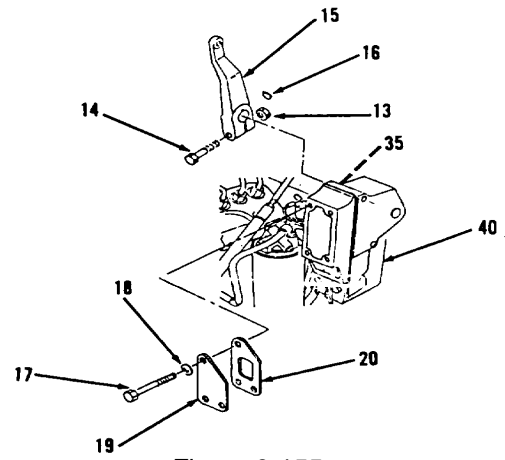
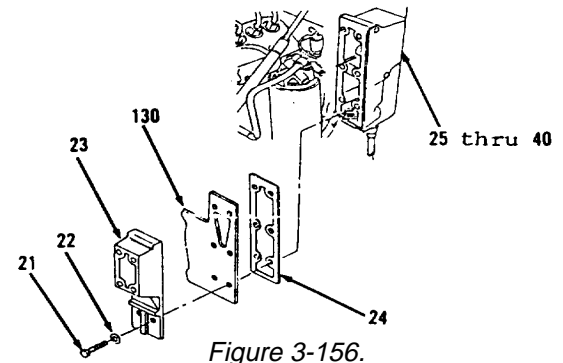

Figure 3-155.
Figure 3-156.
15. Remove nut (13) and bolt (14, Figure 3-155) from inner, right side of dash panel in engine compartment.
16. Using screwdriver, remove lever (15) from shaft (35) on inside of housing (40).
17. Remove key (16) from shaft (35).
18. Remove four bolts (17), washers (18), cover (19) and gasket (20). Discard gasket (20). Remove all gasket material from mounting surfaces.
19. Support housing (40).
20. Remove two bolts (21), washers (22), housing (23) and gasket (24, Figure 3-156). Discard gasket (24). Remove all gasket material from mounting surfaces.
21. Separate items 25 thru 40 as an assembly from cover (130).
22. Position items 25 thru 40 as an assembly on cover (130).